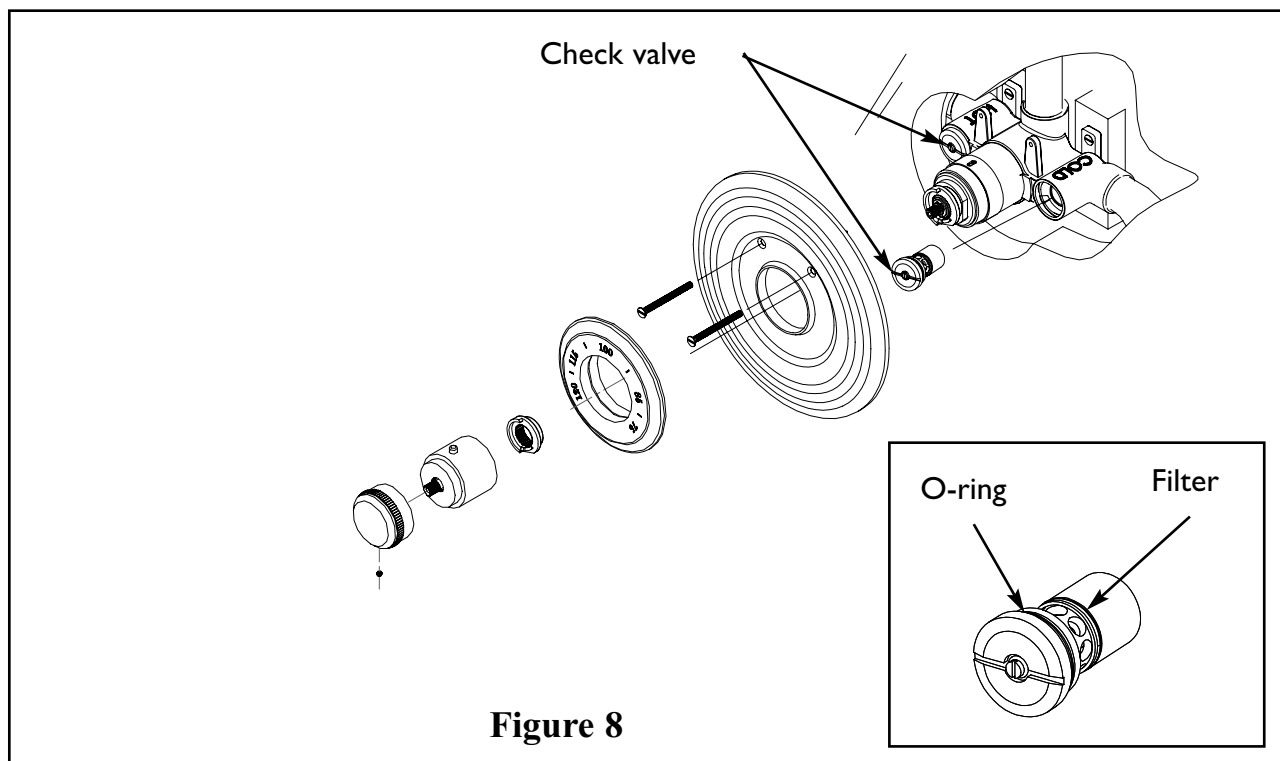

Figure 8
5. Check valve (Reference Figure 8)